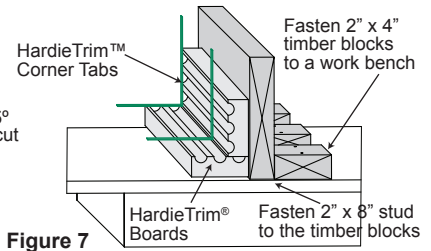

Figure 7
- TIP: Creating a jig for the work station is recommended to ensure the corners are fastened securely and straight. (Figure 7)